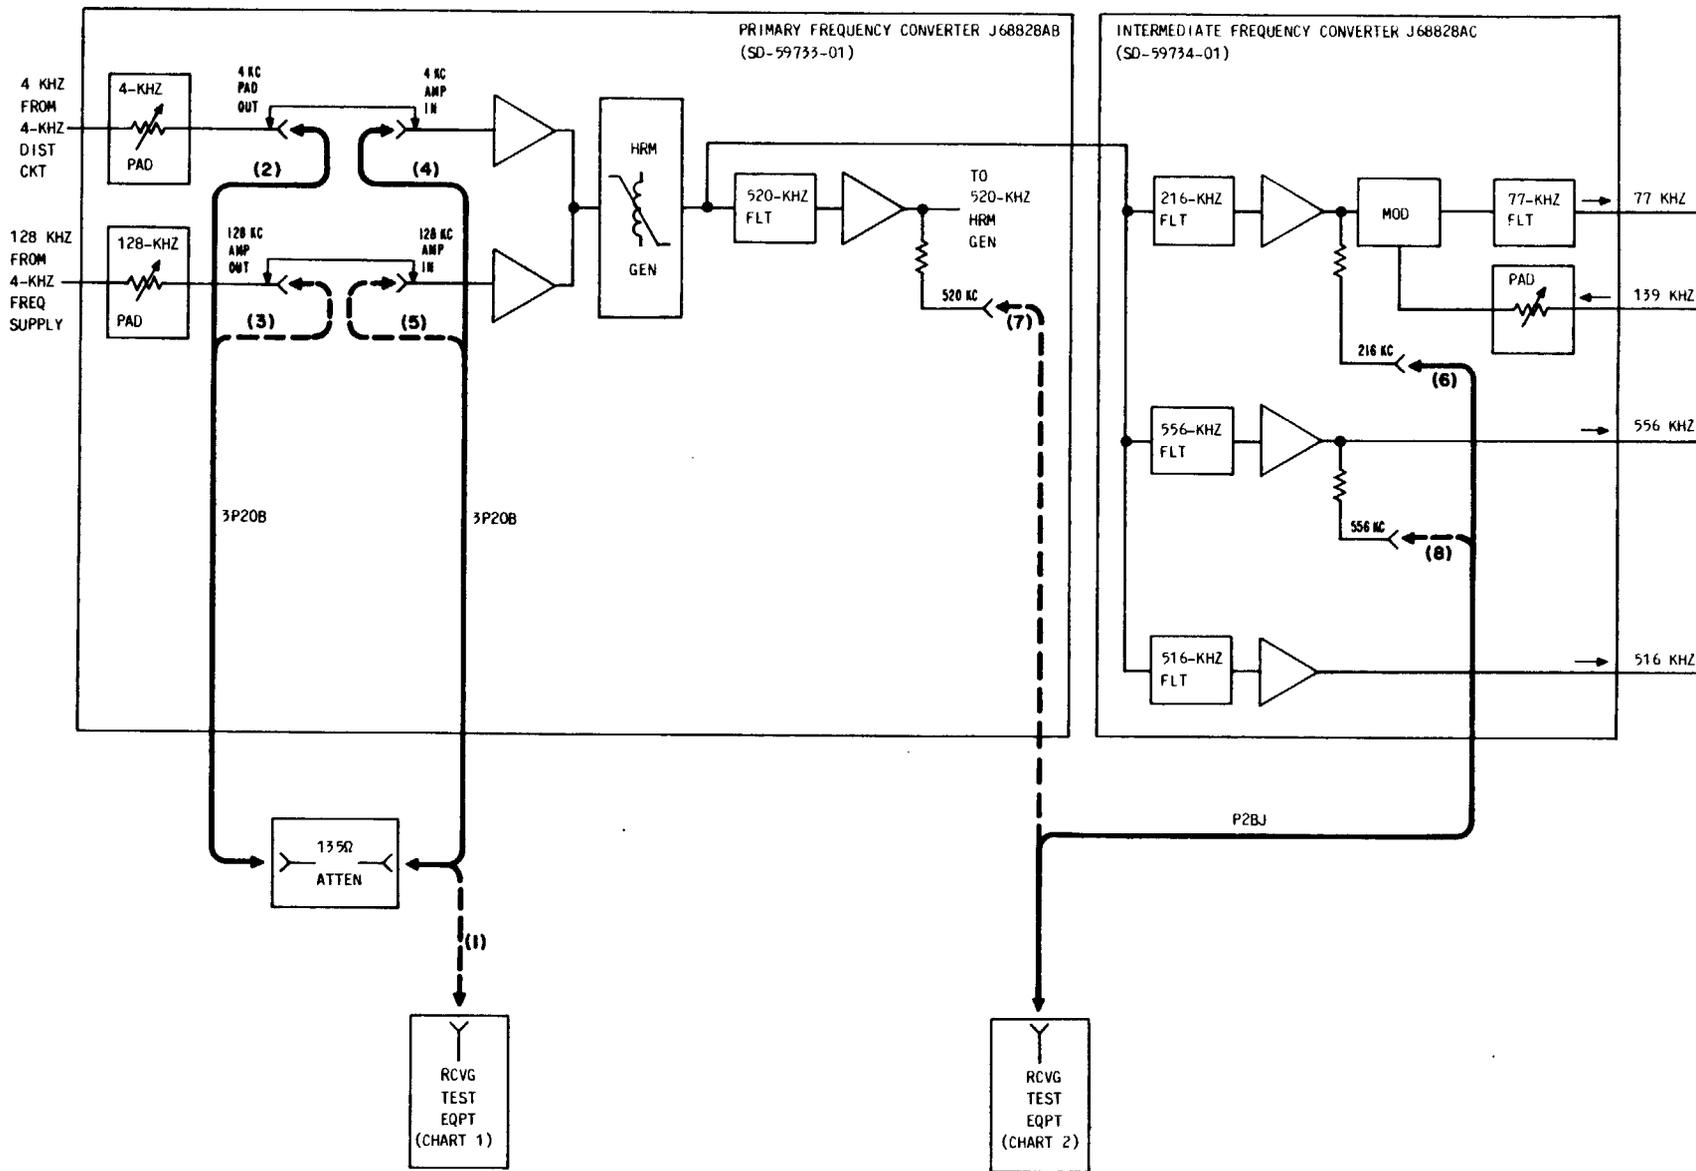
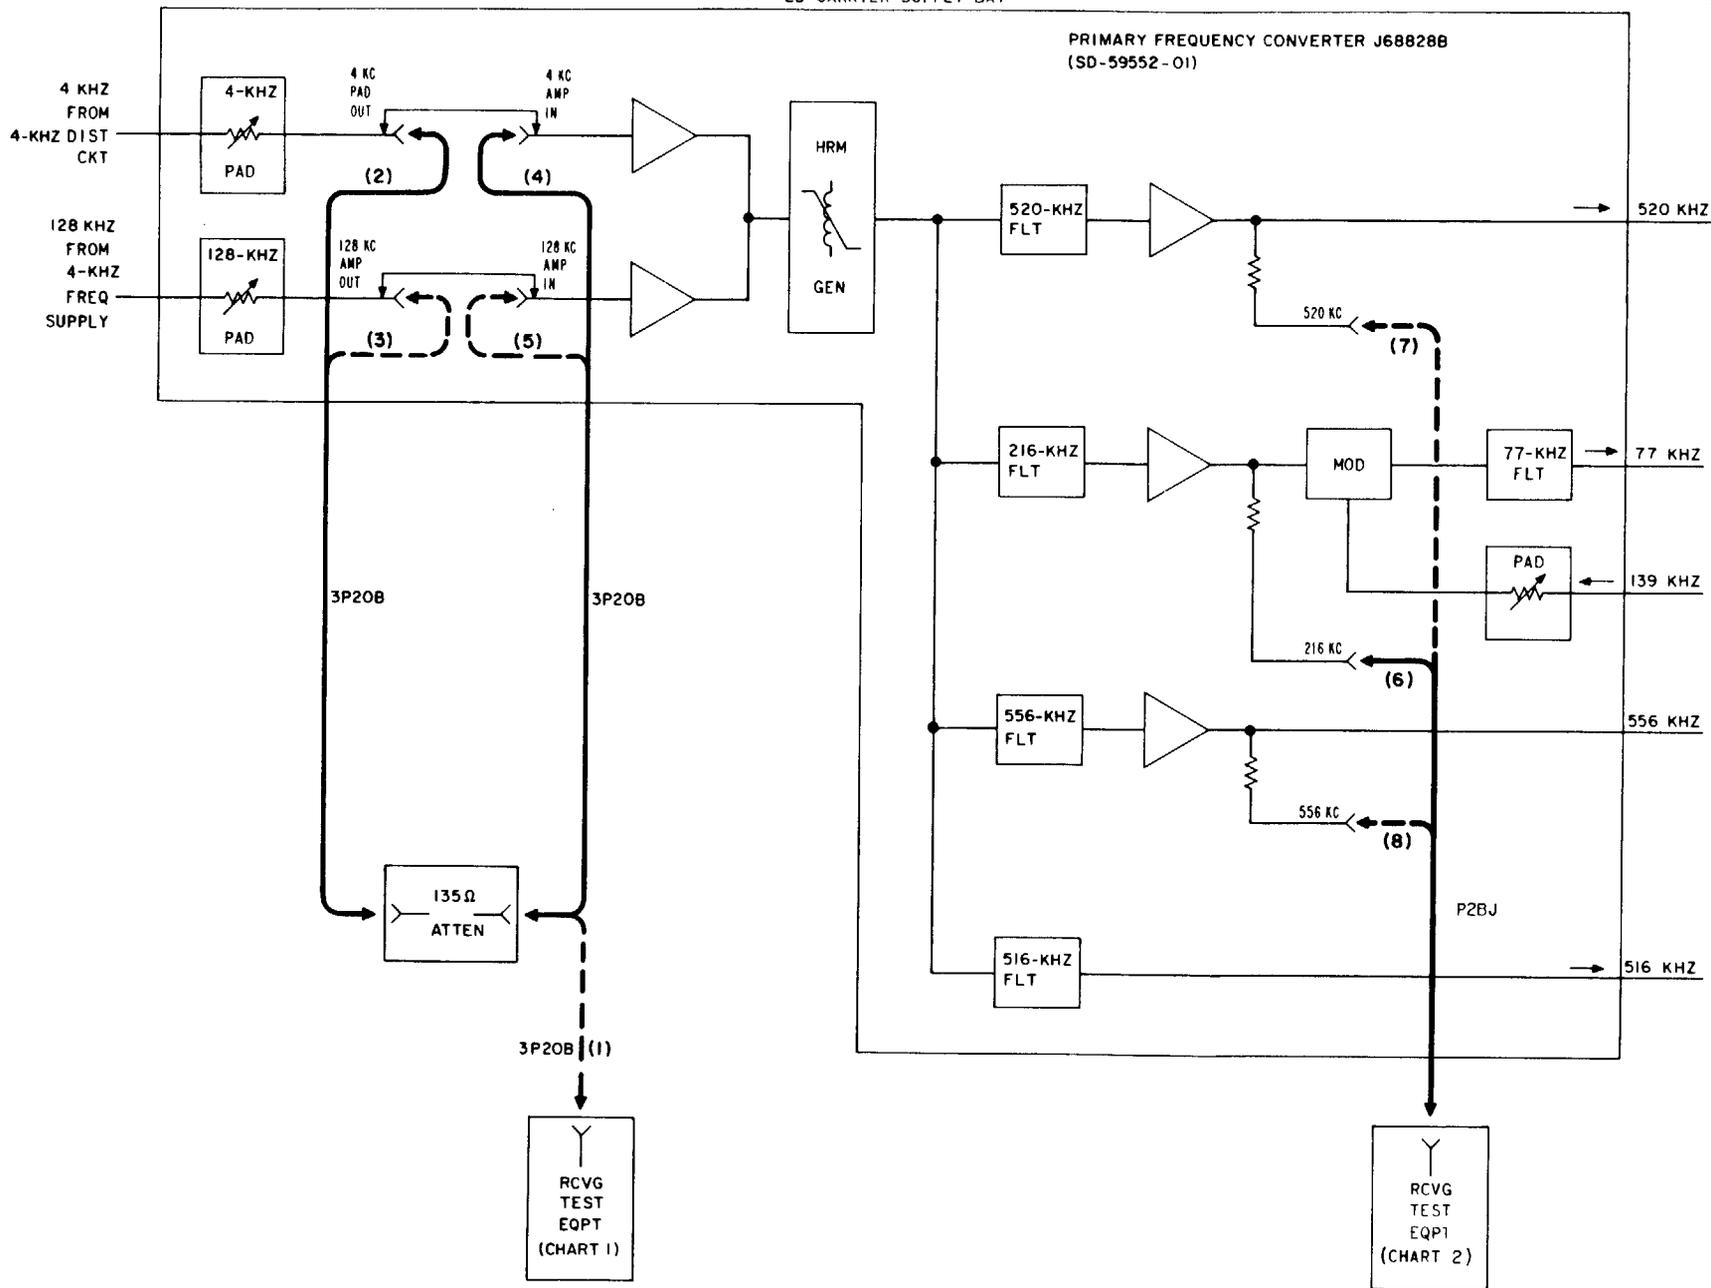

Fig. 2—Input and Output Power Measurements for Primary Frequency Converter J68828AB
Fig. 3—Input and Output Power Measurements for Primary Frequency Converter J68828B
This section explains test procedures for primary frequency converter J68828B (Fig. 1) and J68828AB. A primary frequency converter (Fig. 2 and Fig. 3) receives 4-kHz and 128-kHz input signals from a 4-kHz frequency supply. A harmonic generator provides outputs at 216, 516, 520, and 556 kHz.
3	Measure power of 4-kHz signal at 4 KC PAD OUT jack [patches (1) and (2), Fig. 2 or 3].
8	Remove patch (2), Fig. 2 or 3.
10	Measure power of 128-kHz signal at 128 KC PAD OUT jack [patch (3), Fig. 2 or 3].
- 3 Connect a 135-ohm balanced attenuator set at 0.0 dB between the 4 KC PAD OUT and 4 KC AMP IN jacks [patches (2) and (4), Fig. 2 or 3].
- 4 Measure and record the 216-kHz power at the 216 KC test jack [patch (6), Fig. 2 or 3].
8	Repeat Steps 4 through 7 for the 520-kHz signal at the 520 KC test jack [patch (7), Fig. 2 or 3].
9	Repeat Steps 4 through 7 for the 556-kHz signal at the 556 KC test jack [patch (8), Fig. 2 or 3].
14	Connect the attenuator, set at 0.0 dB, between the 128 KC PAD OUT and 128 KC AMP IN jacks [patches (3) and (5), Fig. 2 or 3].
17	Measure and record the power of the 216-kHz, 520-kHz, and 556-kHz signals at the test jacks [patches (6), (7), and (8), Fig. 2 or 3].
21	Connect the 135-ohm attenuator, set for 20.0 dB, between the 128 KC PAD OUT and 128 KC AMP IN jacks [patches (3) and (5), Fig. 2 or 3].